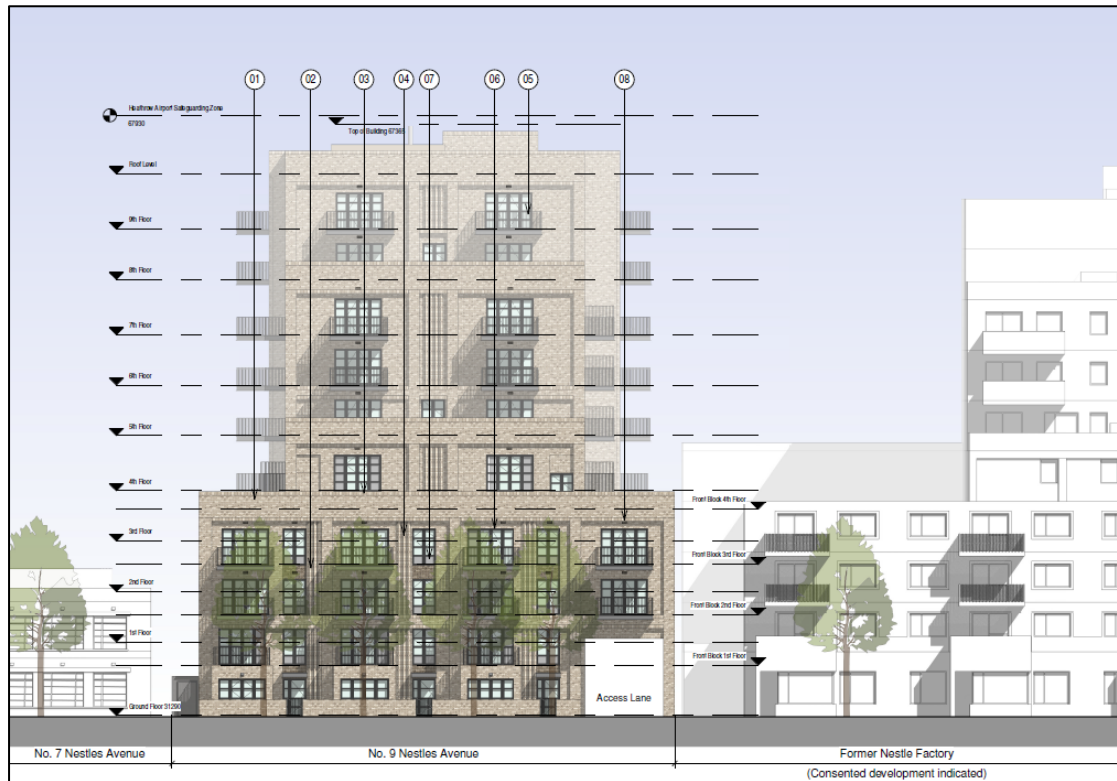

Figure 10.3: Site In Relation Committed Development on Nestle Factory Site
10.11 In addition to ensuring noise emissions are adequately controlled to existing dwellings on the western side of Nestles Avenue, it is also important that noise emissions are controlled to committed new residential development that will be created through the implementation of the extant planning permission for the adjoining former Nestle factory site. **Figure 10.3** below shows the arrangement of the proposed 10th floor plant space in relation to the adjoining committed development.